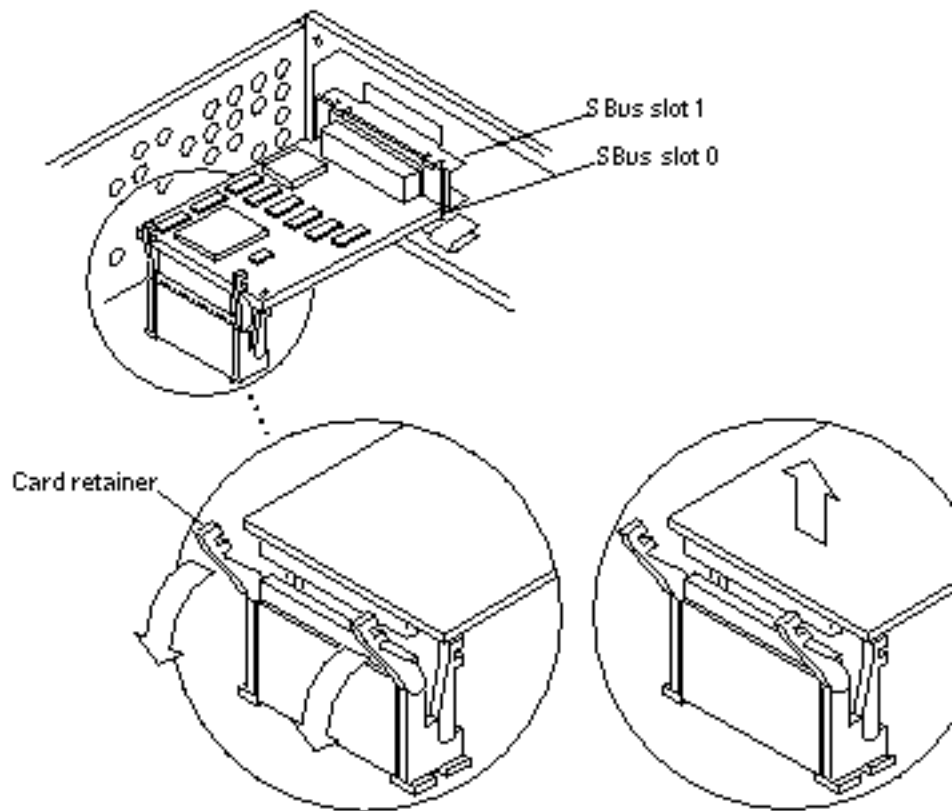

Figure 10–11 Removing an SBus Card from Slot 0 or 1
- If the SBus card is located in SBus slot 0 or 1, push the card retainers back from the edge of the SBus card. See Figure 10–11.
- If the SBus card is located in SBus slot 2, pull the card retainer up. See Figure 10–12. There is only one card retainer for the SBus slot 2.